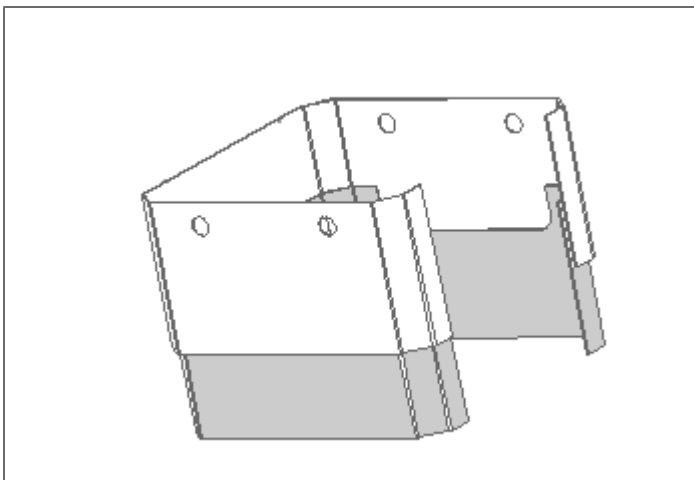

Figure 26: Leg Covers
2. Place the smaller 'sleeve', with cutouts facing up, inside the larger sleeve with the openings of both stacked and facing the back (Figure 26).
1. Remove the leg covers by sliding the top, outer sleeve of the leg covers off the extruded dimples of the cast aluminum base (see Figure 26 on page 27).
5. Mount the Toe Kick Panel on both sides of the unit into the extruded dimples using the (4) T-20 Torx drill point screws provided.